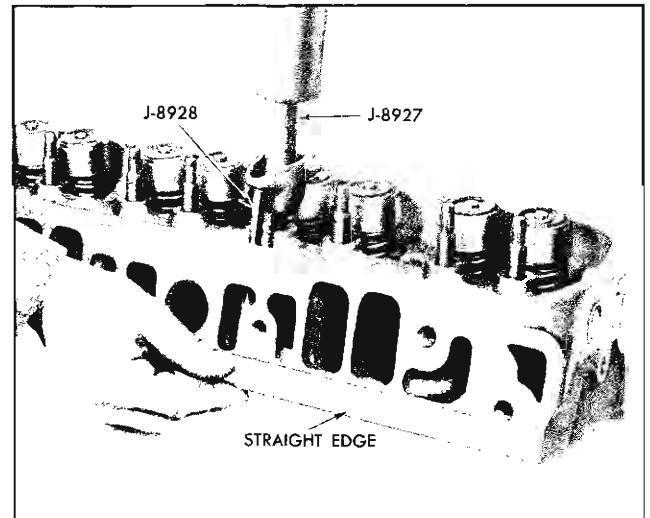

Fig. 6-30 Positioning Rocker Arm Stud
9. Coat rocker arm stud with white lead and oil and with cylinder head mounted in press so studs are vertical, position new stud with rocker arm and rocker arm stud installer over hole in head (Fig. 6-30).